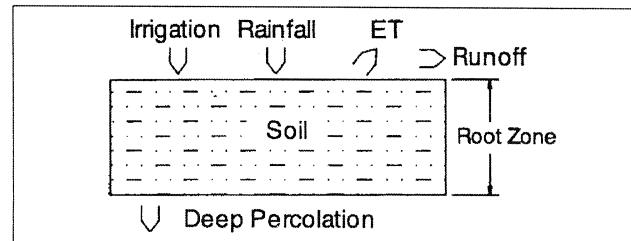

Figure 1.—Schematic representation of the root-zone water-balance components.
An illustration of a water balance is shown in Figure 1. The combination of transpiration and evaporation is called *evapotranspiration* (ET) and is considered as the crop water use. The process of water being used by the plant and replaced by irrigation sometimes is compared to a checkbook because of the similarity to withdrawals and deposits. Water taken out of the soil must be made up with either rainfall or irrigation, or the soil reservoir will become dry.